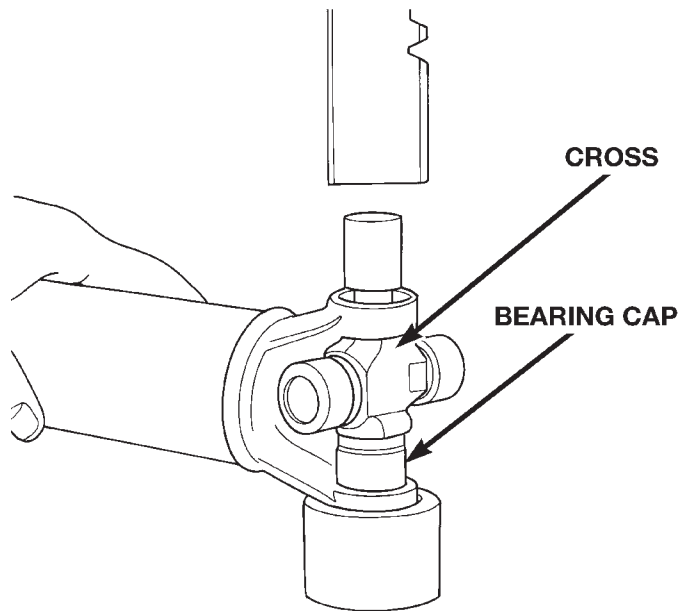

Fig. 16 Press Out Remaining Bearing
(7) If the bearing cap will not pull out of the yoke by hand after pressing, tap the yoke ear near the bearing cap to dislodge the cap.
(8) To remove the opposite bearing cap, turn the yoke over and straighten the cross in the open hole. Then, carefully press the end of the cross until the remaining bearing cap can be removed (Fig. 16).